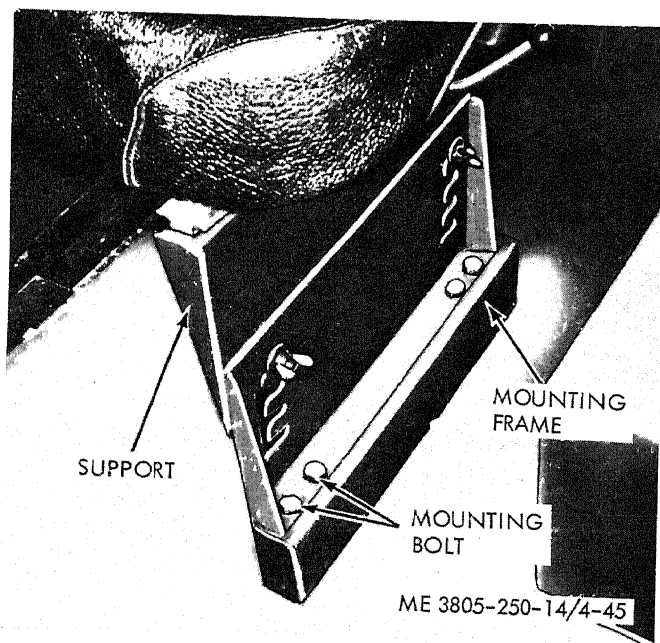

Figure 4-45. Seat removal and installation.
b. *Replacement* (fig. 4-45).
(1) To remove seat assembly, remove bolt, two washers, lockwasher, and nut securing the seat frame to the floor plate support in four places on each side of the seat.